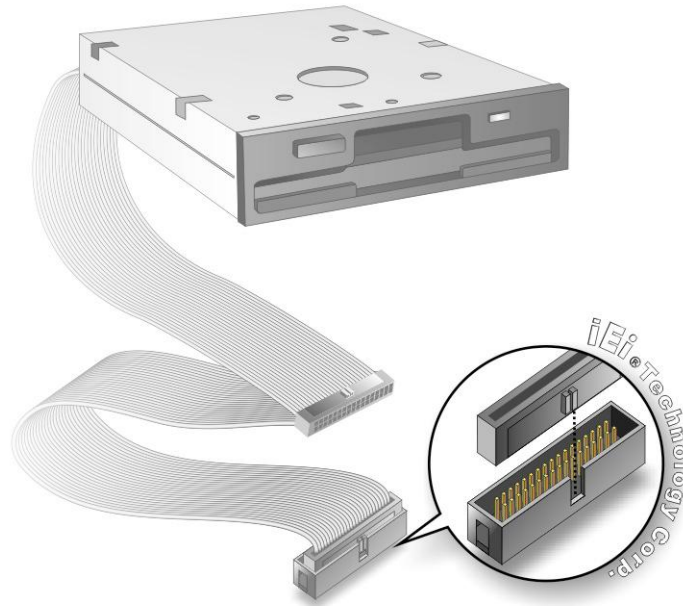

Figure 4-13: FDD Cable Connection
Step 2: **Insert the connector.** Connect the FDD cable connector to the on-board connector. See **Figure 4-13**. A key on the front of the cable connector ensures it can only be inserted in one direction.